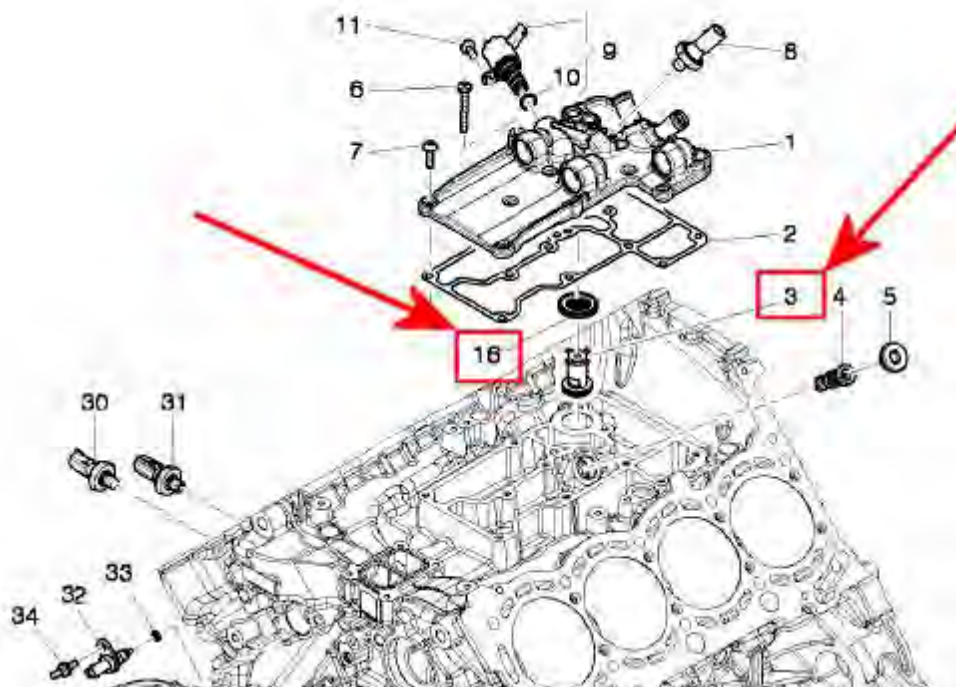

Figure 1
Referring to Figure 1 - Optimized oil strainer (16) for oil supply lines to turbochargers in the cover in the inner valley of engine and the oil strainer and Non-return valve (3) must always be replaced to ensure suitable oil flow to the turbochargers, Over time carbon and soot can build up in the strainer causing reduced oil flow into the turbos. The strainer has now been updated to a larger filter profile to prevent this from occurring.